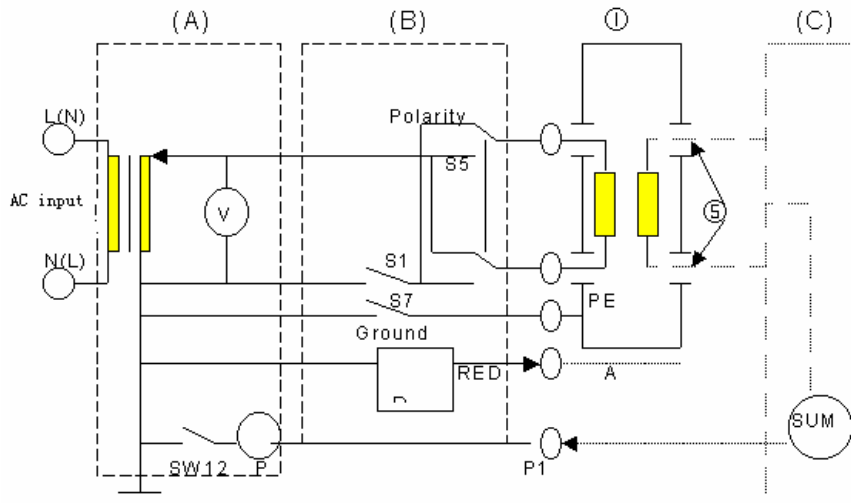

Figure 2 Connection graph to test leakage current from shell to earth
2.2.2.1 Connection graph for testing is shown in figure 2: